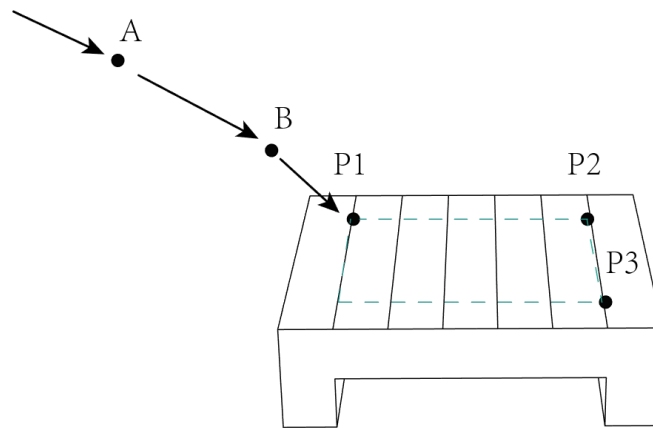
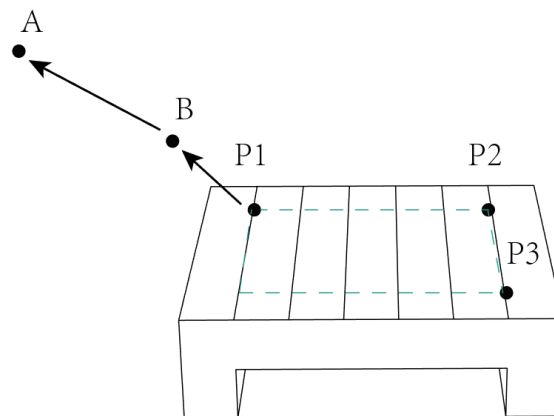

Figure 6.64 Assembly path
Figure 6.65 Dismantling path
- Figure 6.64 and Figure 6.65 show the assembly path and dismantling path.